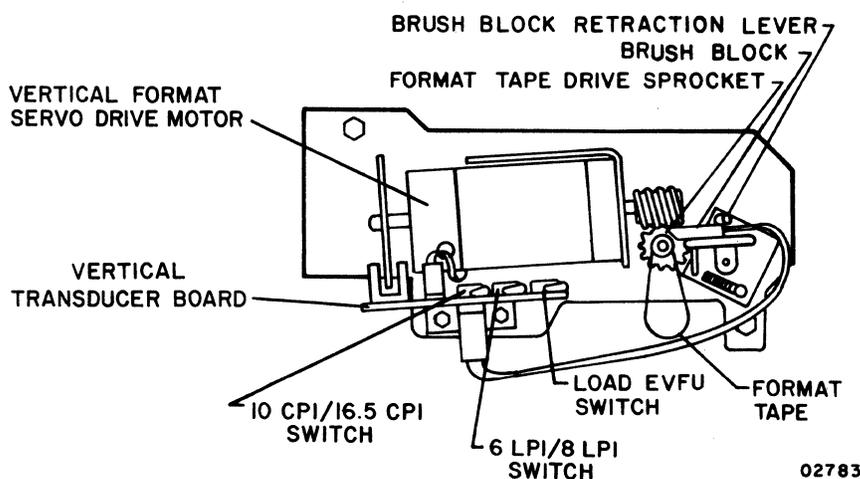

Figure C2-6. Format Tape Load Operation
- 1) Power on the printer. Remove side cover (refer to Side Cover Removal and Replacement procedure) to gain access to the electronic vertical format unit and its load switch (figure C2-6).